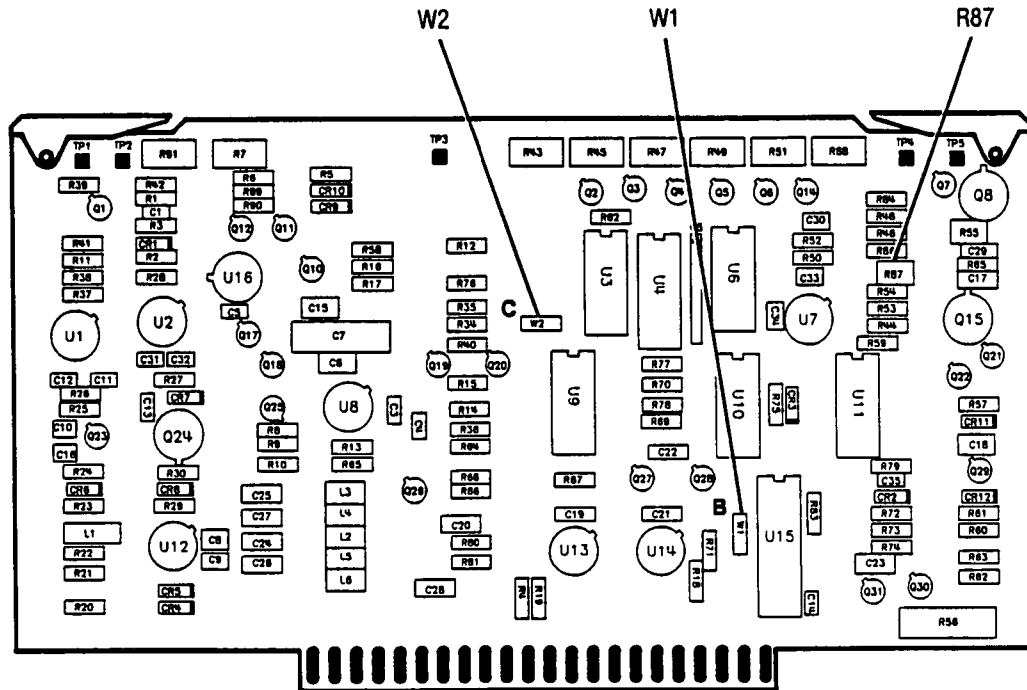

Figure 6. A26 Linear Modulator Component Locations
30. Refer to Figure 6. Locate and remove A26R87 and replace it with the 3k resistor provided in this package. Locate jumpers W1 and W2. Solder W1 into position "B". Solder W2 into position "C".